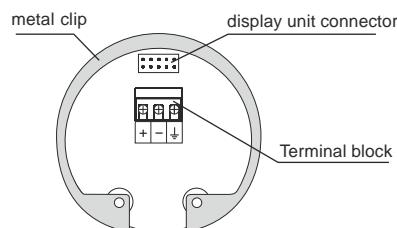

Fig. 17: Inside view of screw terminals of the level meter with current output CPC-U-70_-_-I
5. Connect the cable to the screw terminals according to the diagram in Fig. 17 or 18. Firmly tighten the terminals and the cable outlet.
In the event of strong ambient electromagnetic interference, paralleling of conductors with power distribution, or for distribution to distances over 30 m, we recommend grounding the level meter (see above) and using a shielded cable. Ground the shielding of the cable on the side of the power supply, or the shielding is possible to connect only on inside pin of the level meter marked see fig. 17 and 19 (the shielding of the cable is always connected in a single location).